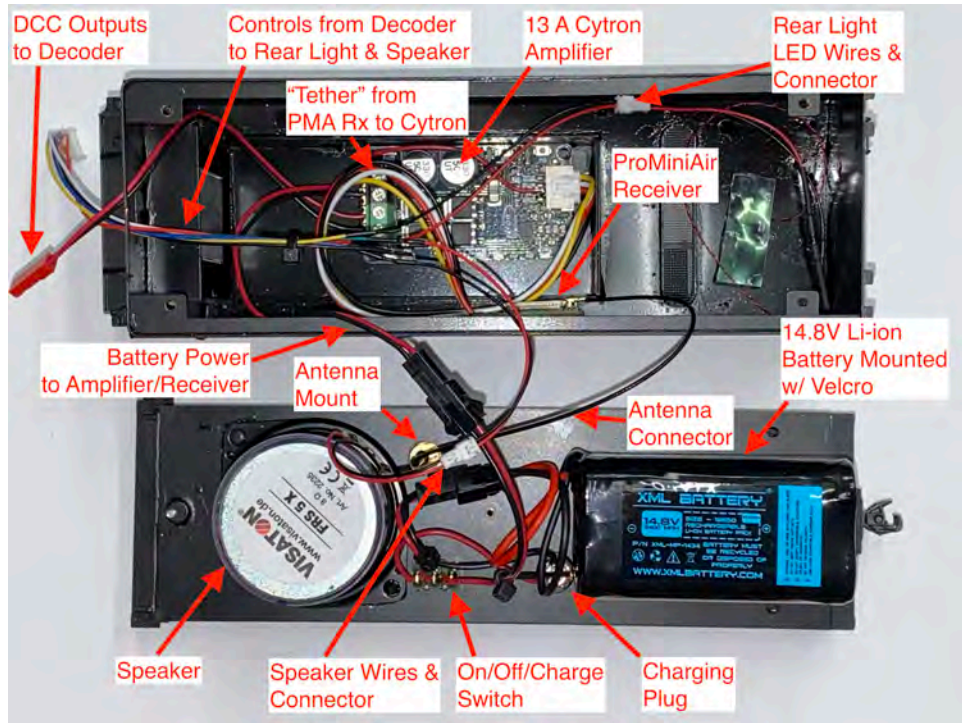

Figure 17: ProMiniAir receiver integration with battery power, a Cytron H-bridge “amp,” and antenna
- The excellent Cytron MD13S high-power (13A continuous) H-bridge motor driver may be purchased here, as shown in Figure 17. It uses “locked-antiphase” modulation requiring the ProMiniAir to output logic-level DCC on DCC+ and a “high” output on DCC-. We activate this output scheme by setting CV253 to 1, the default.